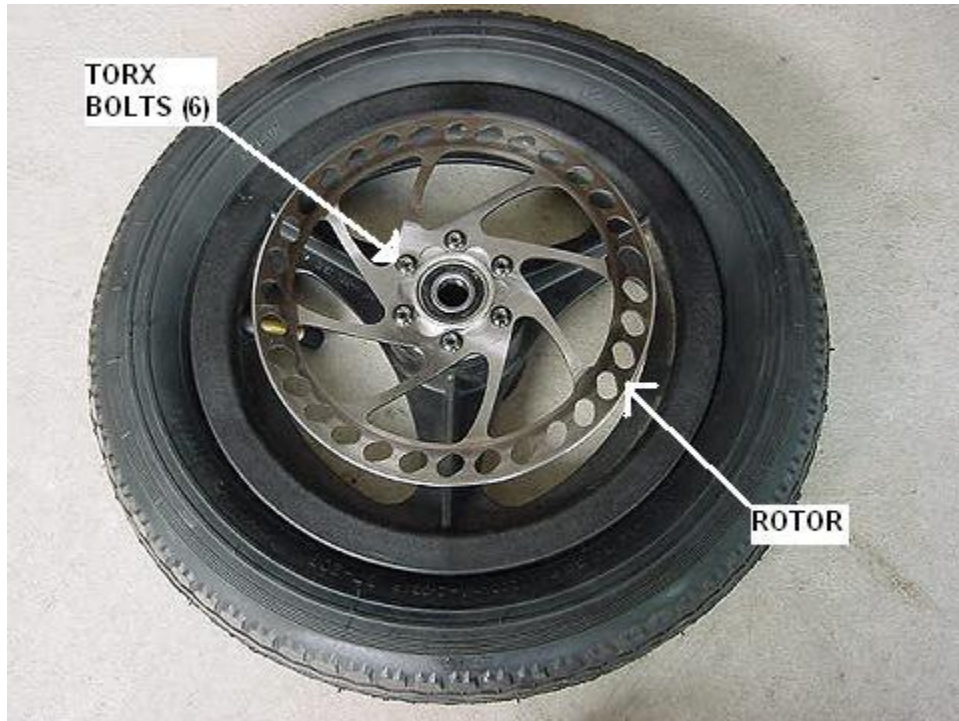

Figure 11 – Nylon – Composite Wheel
STEP 6 (nylon-composite wheels) – Bolt the rotor to the wheel using the six Torx head bolts and Torx wrench included in the kit. The rotor should be bolted such that the arrow on the rotor is facing the direction of forward rotation. The rotor will fail if this is not facing correctly. The tightening pattern should be a star pattern similar to what you would use when attaching lug nuts to your car. See Figure 11.